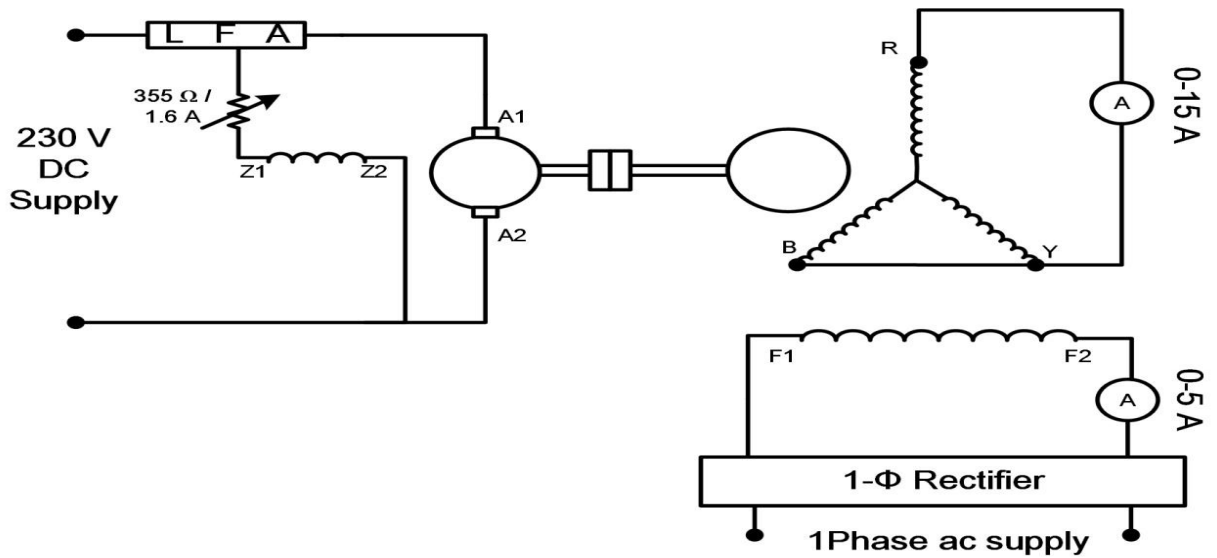

Fig.2: Connection Diagram for short circuit characteristics
1. Connect the circuit as shown in fig.2